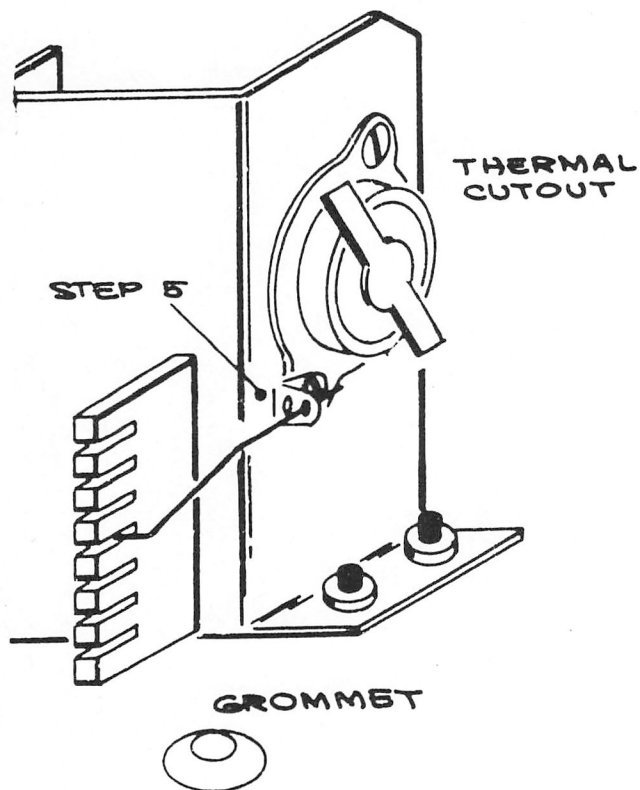

FIG. 1
NOTE: Mount the solder lug between the screw head and the thermal cutout (see Fig. 1, Step 5).
- () 6. Mount the silicon rectifier assembly (from kit), as shown in Fig. 1. Use the 6-32 X 5/16 PHS screws and #6 flat washers (from kit), placing a flat washer under each screw head. (Insert screws from bottom of chassis.)